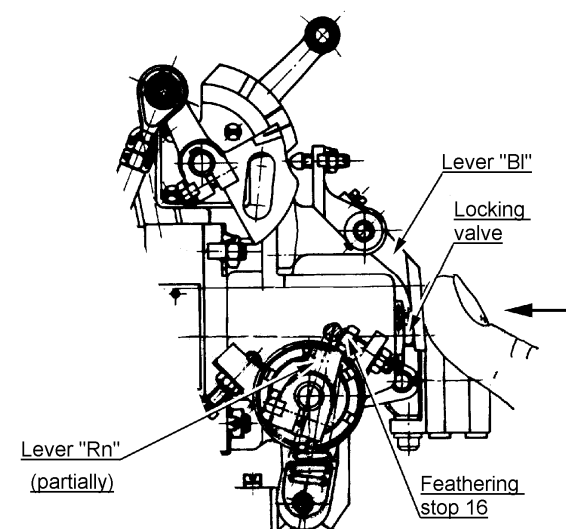

Figure 11-31 Blocking valve clearance check
- k) Move propeller control lever to the stop **16** and fix, manually through the lever "BI" press the locking valve according to figure 11-31. Small clearance $\approx 0,1$ mm (0.004 inch) must be evident.